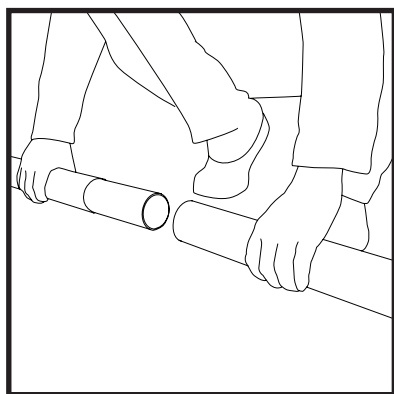

Fig. 15
11. Put the pole together by sliding one element into the other except pole crown (Fig. 15).